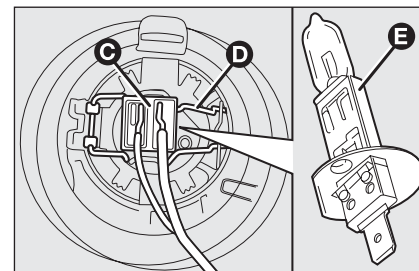

fig. 26
- ☐ disconnect the electrical connector **C**-fig. 26;